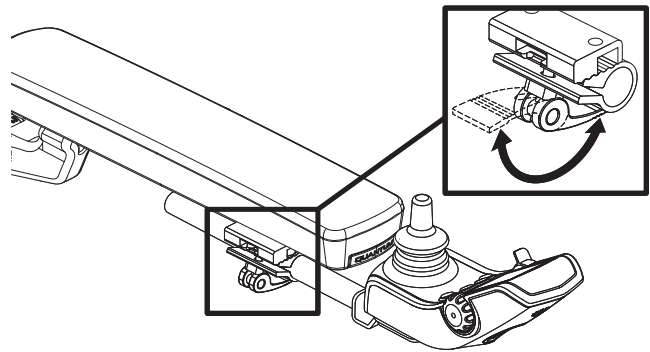

Figure 18. Controller Height Adjustment (Flip-up Armrests)
3. Flip and then rotate the release lever to loosen the clamp. **See figure 18 or 19.**